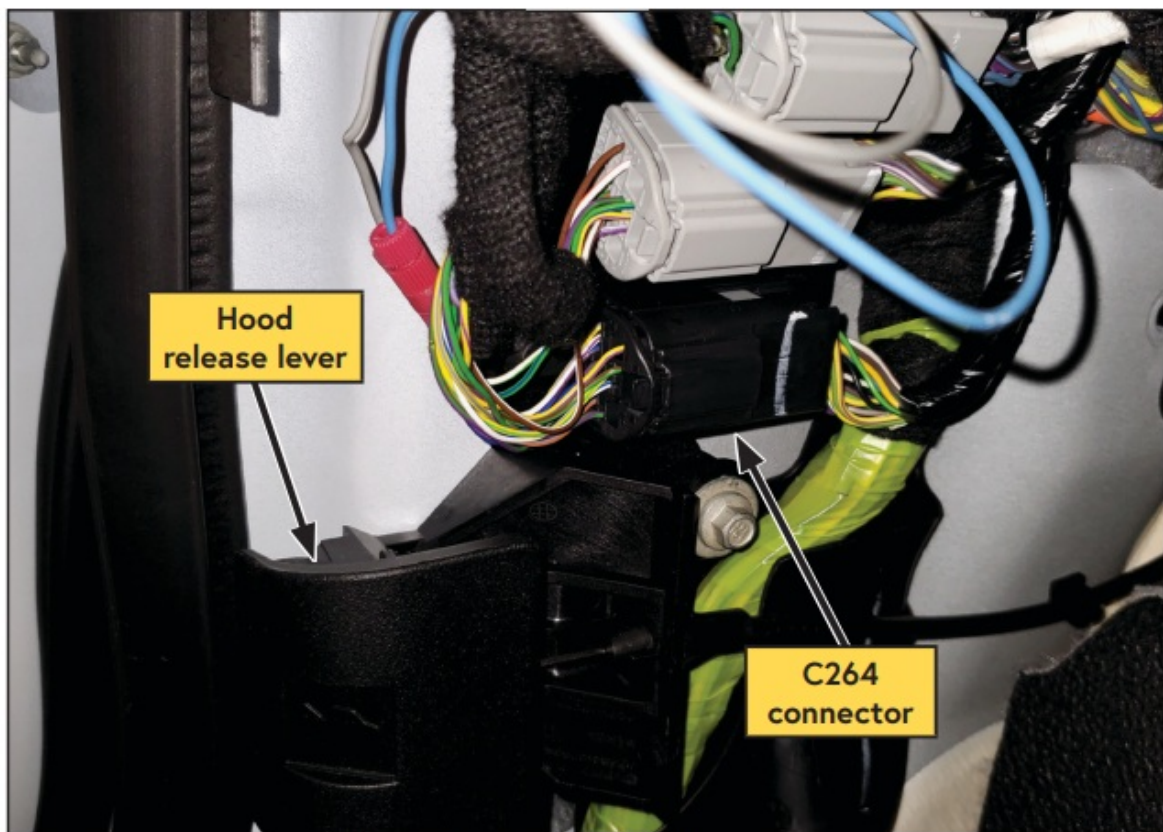

Figure 3 — Locate C264 connector
- Locate the black C264 connector (Figure 3)